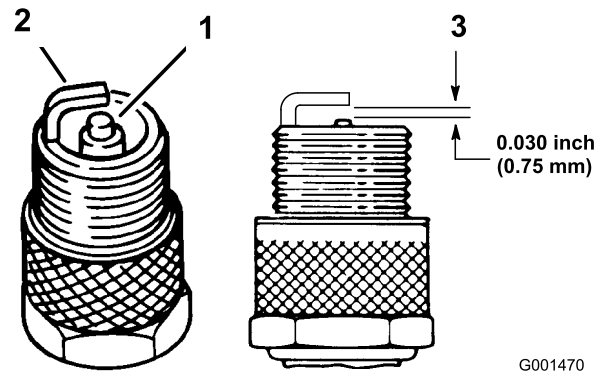

Figure 36
3. Check the condition of the side electrode, center electrode, and center electrode insulator to ensure that there is no damage (Figure 36).
4. Set the air gap between the center and side electrodes at 0.030 inch (0.762 mm) (Figure 36).